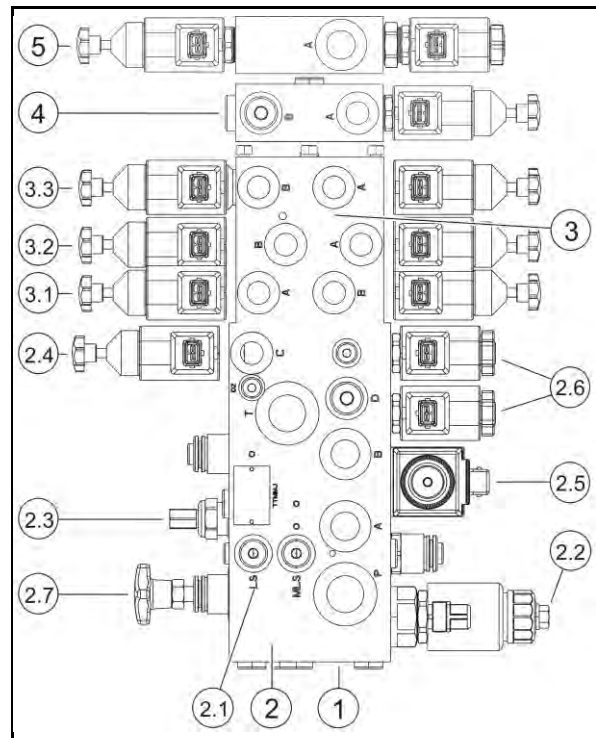

Fig. 36
1. Screw the load-sensing control line (2) into the connecting aperture (Fig. 36/2.1) of the electro-hydraulic control block.